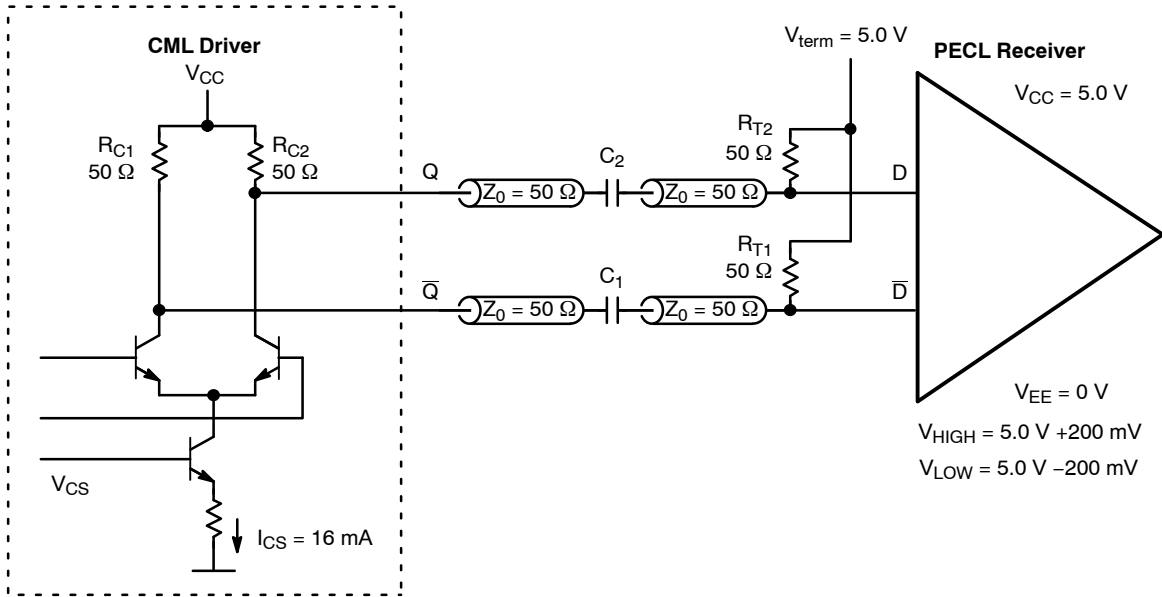

Figure 11. CML to PECL ($V_{CC} = V_{term} = 5.0\text{ V}$, $V_{EE} = 0\text{ V}$)
(AC) to ECL type receiver inputs operating with different supply modes such as shown in Figures 11, 12, and 13.